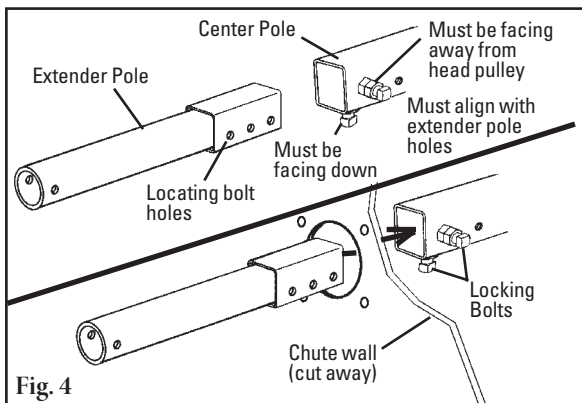

Fig. 4
4. **Assemble the extender poles to the center pole.** Insert the extender poles through the chute holes and into the center pole and make sure the locating bolt holes align with the center pole holes (holes are offset to the lower half). Position the center pole with the welded nuts and locking bolts on one side facing down and on the adjoining side facing away from the head pulley (Fig. 4). Leave the locking bolts loose.